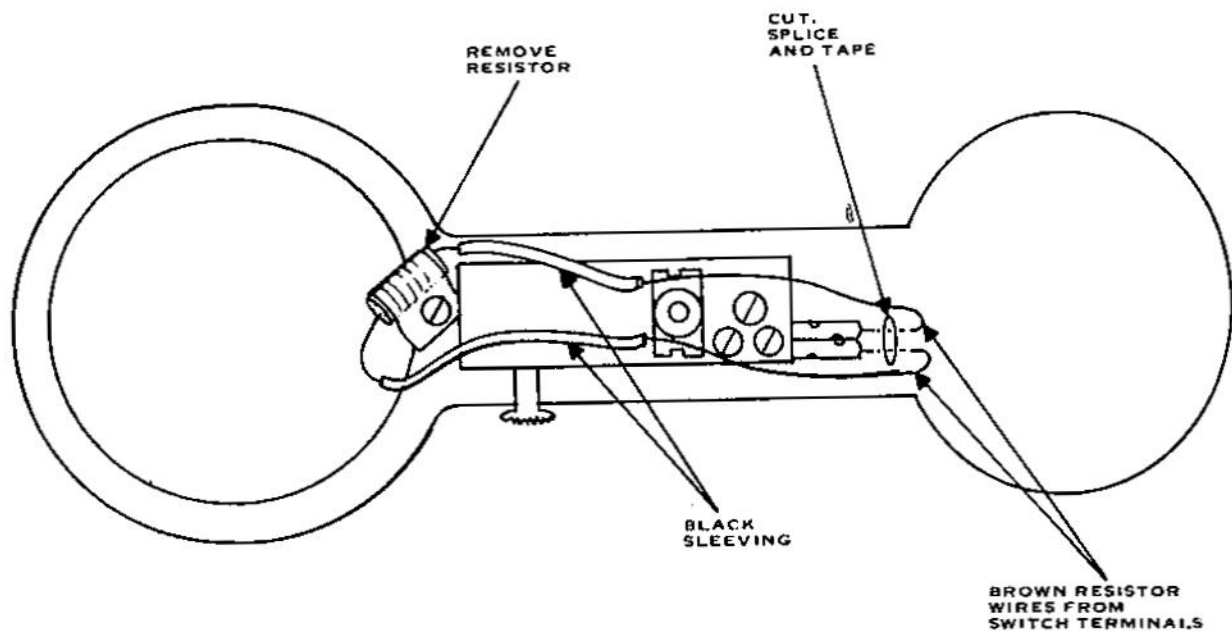

Figure 4. Removal of 1500 Ohm Resistor.
- Cut and splice the two brown resistor leads together (Figure 4).